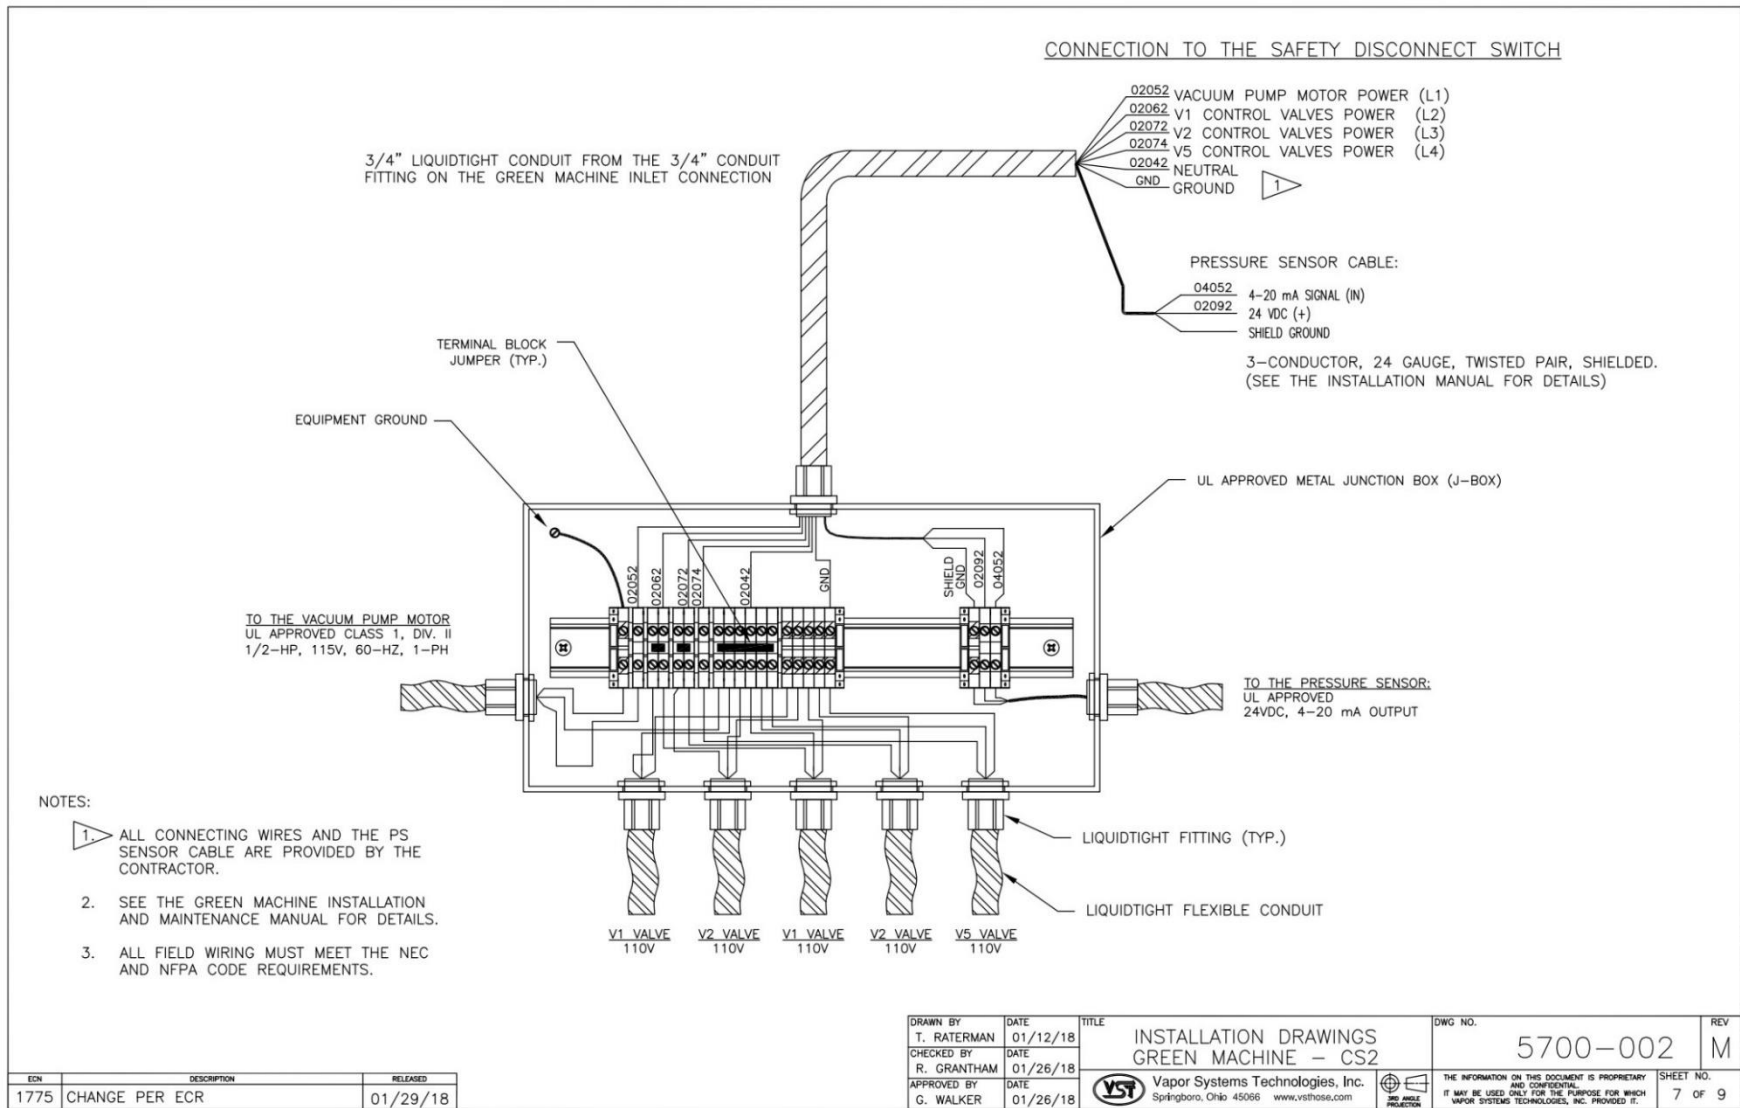

Figure 9-11: Wiring the Pressure Sensor Inside the Internal Junction Box
6. Disconnect the 3 Pressure Sensor wires from the terminal block inside the Internal Junction Box. **See Figure 9-11.**
5. Connect the Pressure Sensor wires to the terminal blocks inside the Internal Junction Box. **See Figure 9-11.**